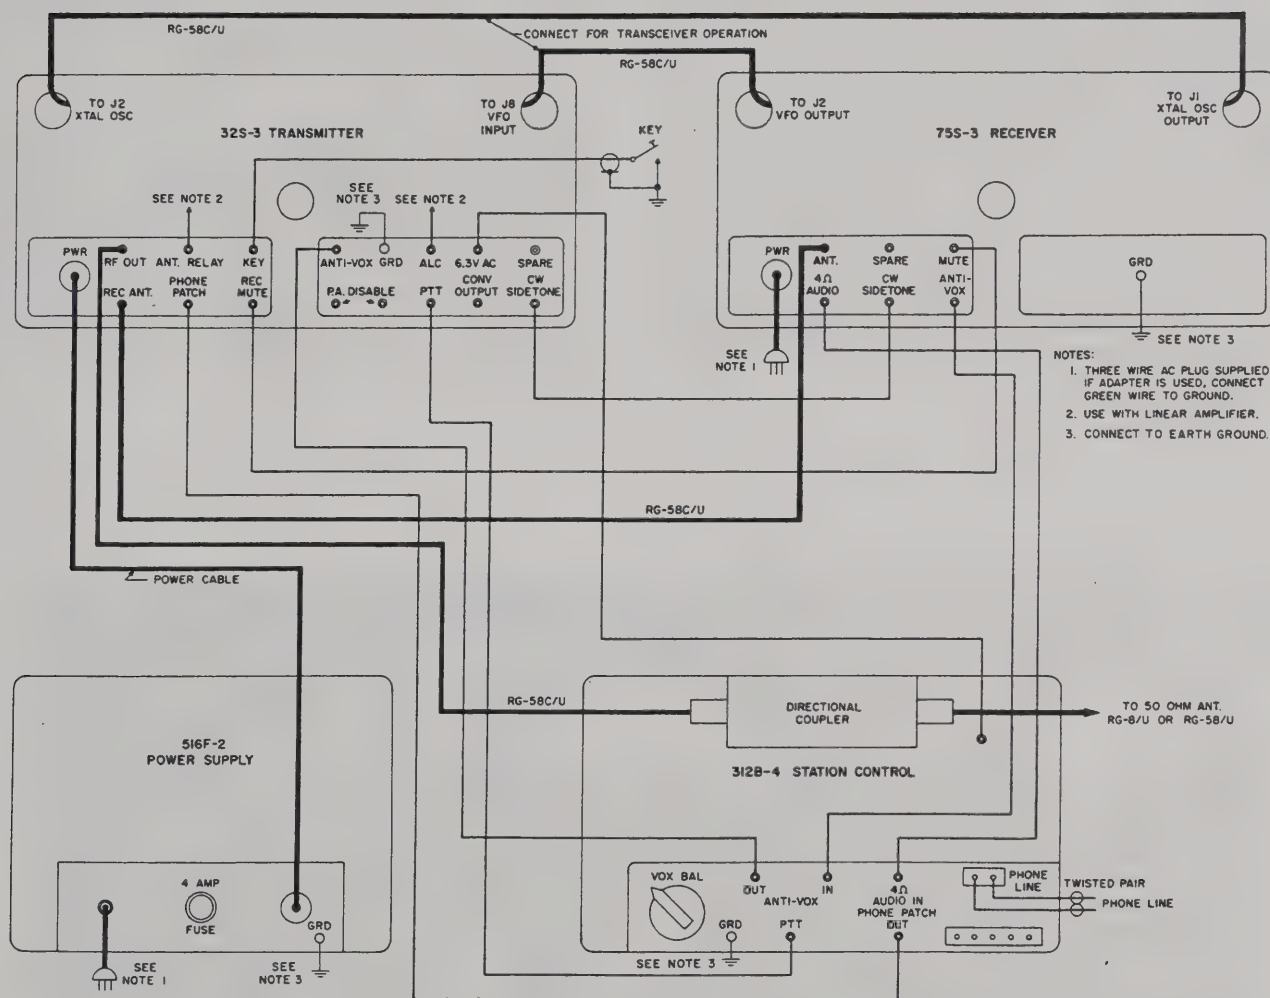

Figure 1-2. Station Interconnections
1.2.2 CABLING WITH 32S-3 TRANSMITTER. Figure 1-2 shows a complete station interconnection for a 75S-3 or 75S-3A Receiver, 32S-3 Transmitter, and
- a. Connect the 32S-3 and 75S-3/3A as shown in figure 1-2.